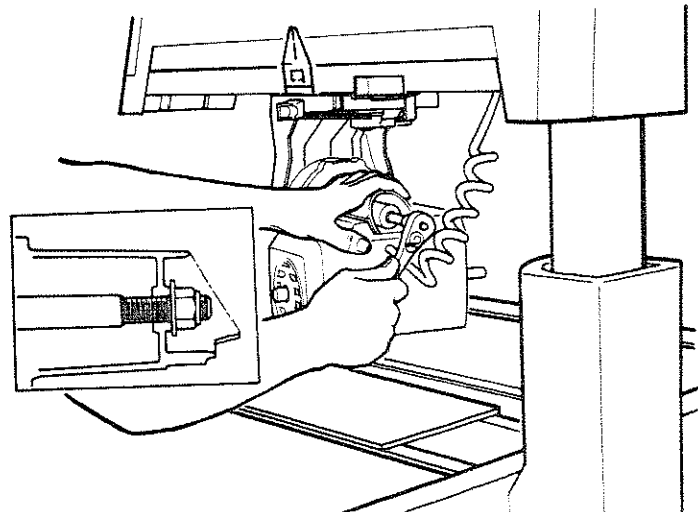

Fig. 18
7. Remove the lock nut and flat washer from the *motor pivot support*. (Figure 18)